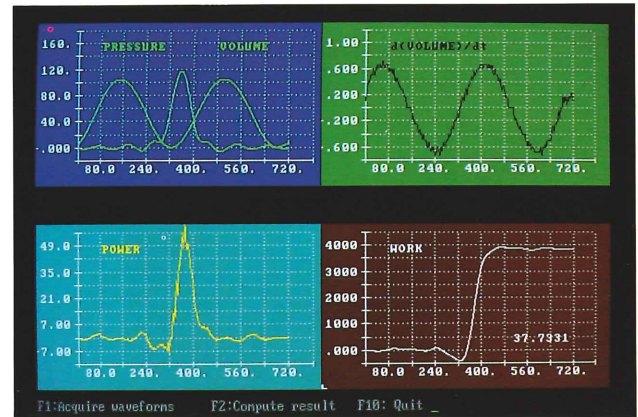

Figure 4. Final output from engine-analysis program.
Finally, we define a routine COMPUTE.RESULT which is a combination of all the computations, and attach its usage to function key 1 by using F1 FUNCTION.KEY.DOES COMPUTE.RESULT (details not shown for brevity). Figure 4 shows the final result, including the function-key menu.